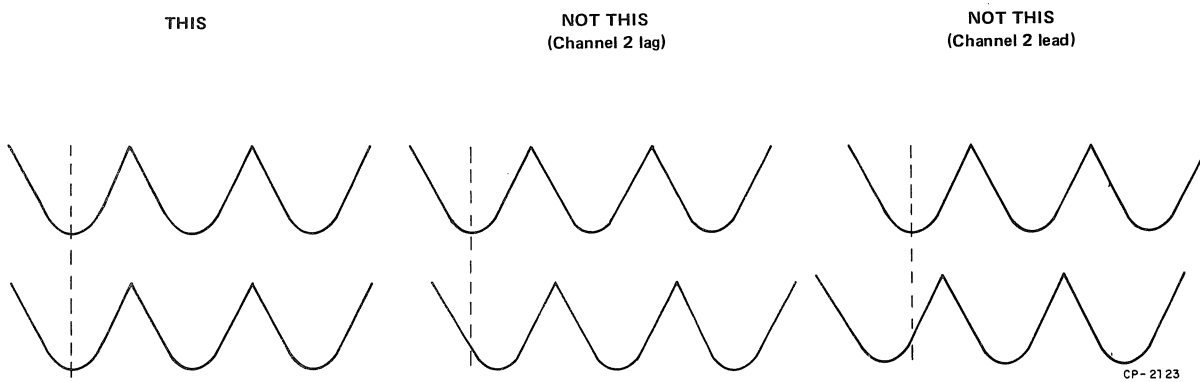

Figure 5-24 Example of Peak Deflection
5. Run skew tape forward. Adjust the azimuth screw for minimum peak deflection (Figure 5-24).